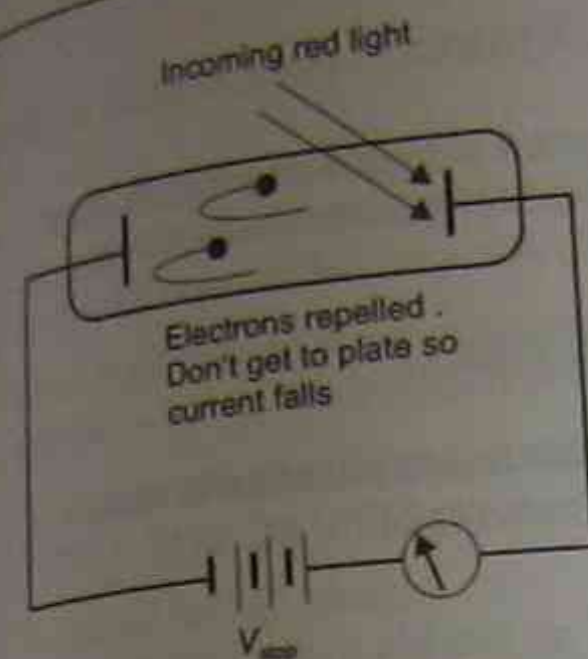

Figure 7.11
- 13 Figure 7.11 shows apparatus similar to that used by Lenard to investigate the photoelectric effect.